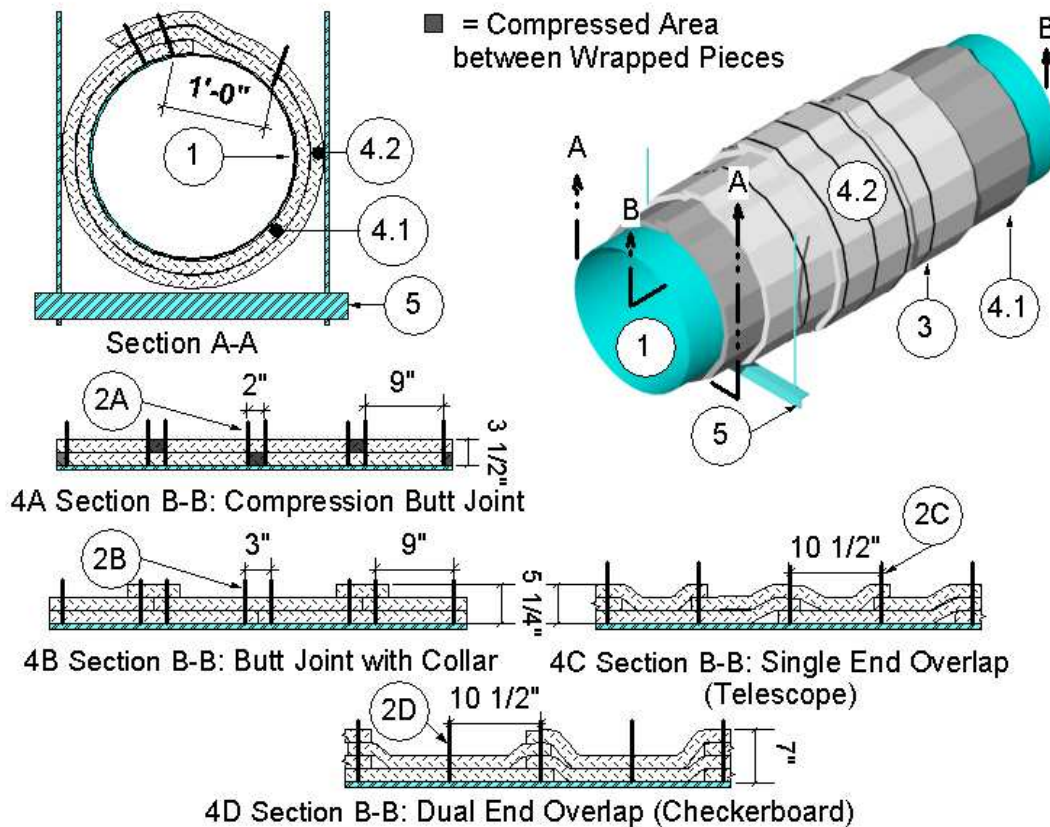

Figure 1
2. FASTENERS: Refer to Figure 1. Weld minimum 12 GA, 6-1/2-inch long, copper-coated, steel insulation pins or 12 GA, insulated cup head steel pins to the grease duct (Item 1). Match the following fastener method with corresponding insulation (Item 4) method.
- INSULATION: Apply the non-combustible (ASTM E136) and durable (ASTM C518) insulation in two layers of nominal 1-1/2-inches thick, 6-pcf density blanket, made of calcium-, silica-, and magnesium-oxide (CSM) fibers, encapsulated with polypropylene-foil or aluminized polyester-foil scrim over the entire surface of the grease duct (Item 1). Apply the inner first layer (Figure 1, 4.1) in accord with one of the four methods (A, B, C, or D) that follow. Offset the second outer layer (Figure 1, 4.2) one half the width of the inner first layer (Figure 1, 4.1) so that the joints of the inner first layer (Figure 1, 4.1) are covered by and approximately in the center of the second outer layer (Figure 1, 4.2). Apply the second outer layer (Figure 1, 4.2) in accord with the same method selected for the first inner layer (Figure 1, 4.1). Use blanket, available in various widths, that is fully encapsulated or single faced with a polypropylene-foil or polyester-foil scrim. Expose a foil-faced